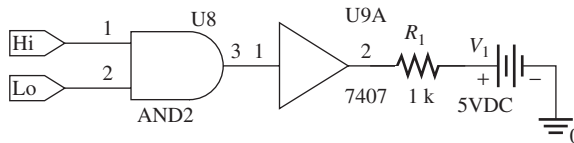

FIGURE 10.60 PSpice schematic circuit for Example 10.22 Part (a).
- For bias point analysis, use the source that has only the output of 1 or 0 instead of a clock generator. Go to “Place Ground” and type “\$D_HI” to choose the source that has the output of 1. Place and connect it to one of the inputs of AND, as shown in Figure 10.60.
- Go to “Place Ground” again, and type “\$D_LO” to choose the source with the output of 0. Place and connect it to another input of AND, as shown in Figure 10.60.
- Go to “Place Part” and type “7407” under the “Part Name.” Place it as shown in Figure 10.60, and also place the resistor, voltage source, and ground.